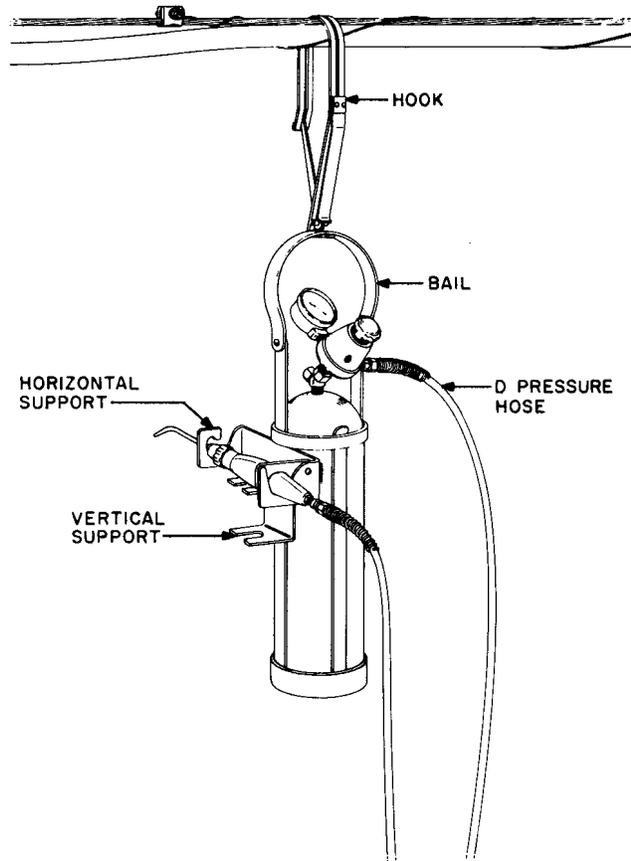

Fig. 4—B Acetylene Torch Holder
6.01 The B acetylene torch holder, illustrated in Fig. 4, is designed to accommodate the MC (10 cubic foot) tank and has a 2-position support for a torch or soldering copper. The support is intended to hold an unlighted torch or a lighted copper in a horizontal position or to support either of these tools in a vertical position for transportation or storage. The holder is provided with a bail to which is attached a hook with a spring keeper to permit suspending the holder from a suspension strand.